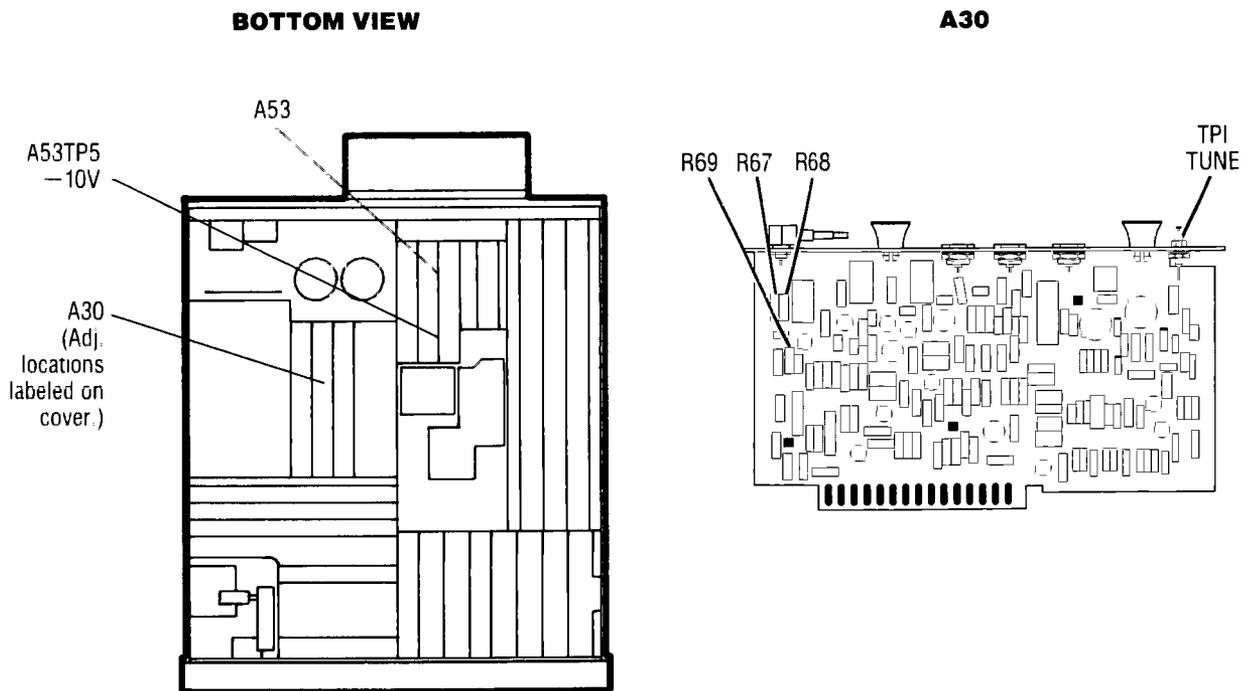

Figure 5-6. Location of A30 100 MHz VCXO Adjustments
18. If the amplitude of the 400 MHz signal is not within 3 dB of  $-10$  dBm, note the amplitude and change the values of A30R67, A30R68, and A30R69 as necessary to adjust the amplitude to  $-10$  dBm  $\pm$  3 dB. Table 5-5 contains a list of attenuations in 1 dB steps and the corresponding values for the attenuator network resistors to adjust the level to  $-10$  dBm. Refer to Figure 5-6 for location of resistors.